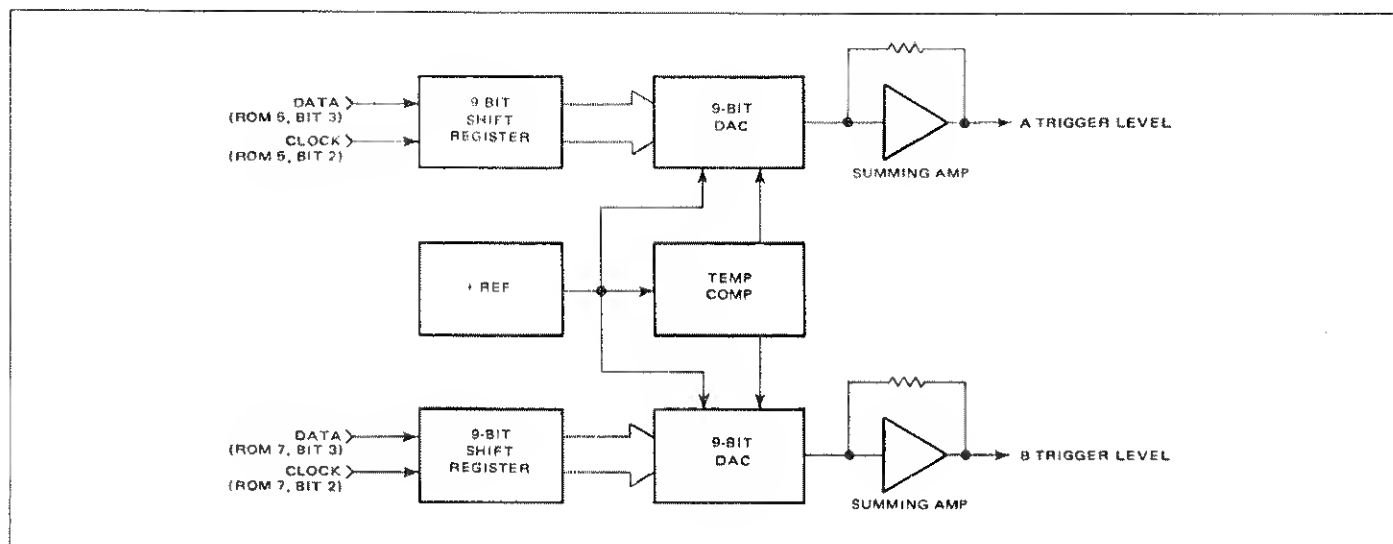

Figure 4.14 - DAC Board
4.4.4.1 The DAC board generates analog trigger levels for the channel A and B signal conditioning boards. The circuitry on the board is shown in block diagram form in figure 4.14 and consists of two 9-bit shift registers, two 9-bit DACs (digital-to-analog converters), two summing amplifiers, a + reference, and a temperature compensation circuit.